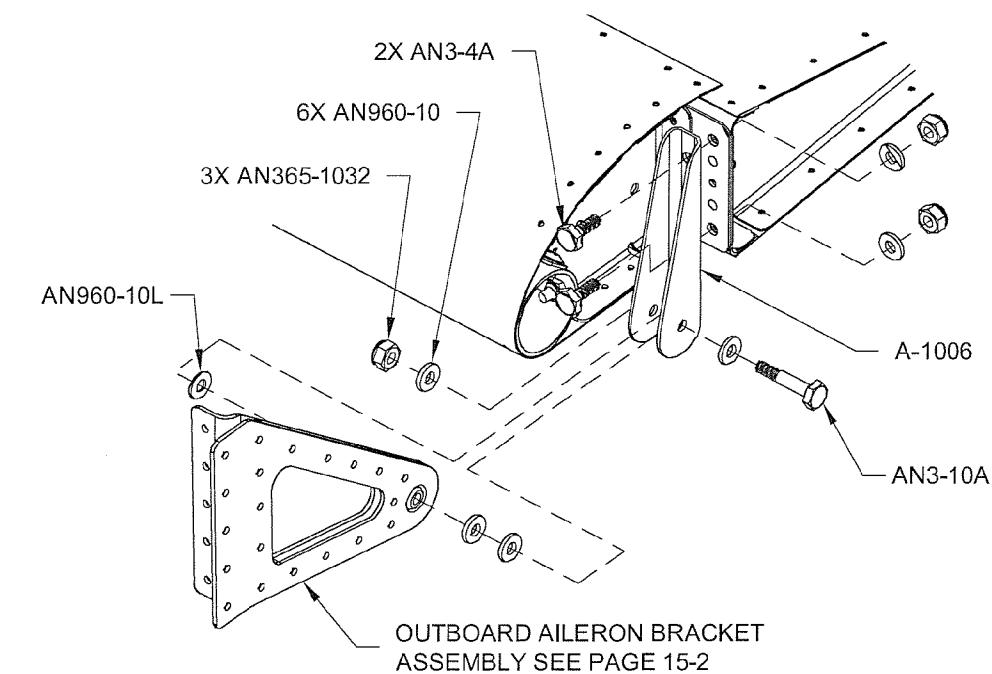

FIGURE 4: ATTACH OUTBOARD HINGE BRACKET
Step 3: Install the A-1006 Outboard Hinge Bracket as shown in Figure 4.
The hardware called-out in Figure 4 for attachment of the outboard hinge bracket to the wing will be used during completion of the aileron actuation system as covered in Section 23.